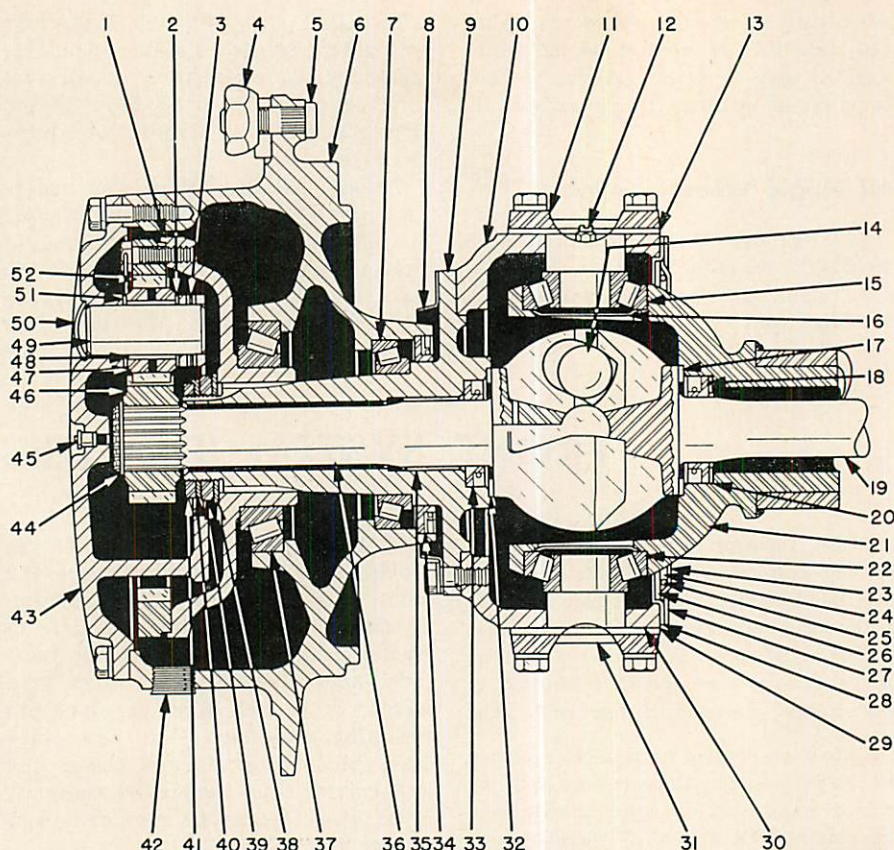

Fig. O18 — Cross-sectional view showing components of front drive axle outer end.
spindle from internal gear hub. Lift internal gear hub and bearing from wheel hub and be careful not to allow bearing to drop from hub of internal gear hub. Complete removal of spindle from wheel hub. All bearings and seals, thrust washers and dirt shield can now be removed and renewed if necessary. Bushing and oil seal in inner bore of spindle (items 33 and 35—Fig. O18) can also be renewed at this time.
33. Use Fig. O18 as a reference and reassemble wheel hub unit as follows: Install bearing cups (7 and 37) in hub with smallest diameters toward inside of hub. Place inner bearing in inner bearing cup, then install oil seal (34) with lip facing bearing. Bump seal into bore until it bottoms. Place dirt shield (8) on hub so flat side is toward flange of spindle, then using caution not to damage seal, install spindle in wheel hub. Hold spin-
Adjust inner nut as required until a pull of 33-38 pounds on a spring scale attached to a wheel stud is required to keep hub in motion. See Fig. O19. Install lockwasher (40—Fig. O18) and outer nut (41). Tighten outer nut and recheck hub rolling torque. When adjustment is correct,